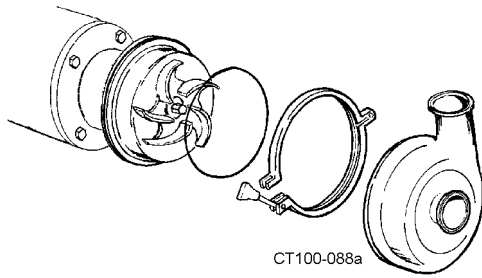

Figure 43 - Install Casing
29. Install the casing O-ring on the backplate and clamp the casing in place (Figure 43).